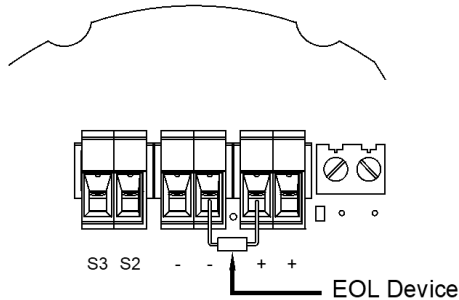

Figure 8: End of Line Resistor placement.
- Fit an M20/NPT suitably rated cable gland or conduit entry into the hole in the enclosure and connect the field wiring to the appropriate alarm horn terminals as shown in fig. 6 (AC) or fig 8. (DC). The power supply terminals are duplicated so that units may be connected in parallel. An end of line monitoring resistor may be fitted to DC units only (see section 12). If the second and third M20/NPT entries are not used, suitably rated stopping plugs must always be fitted.